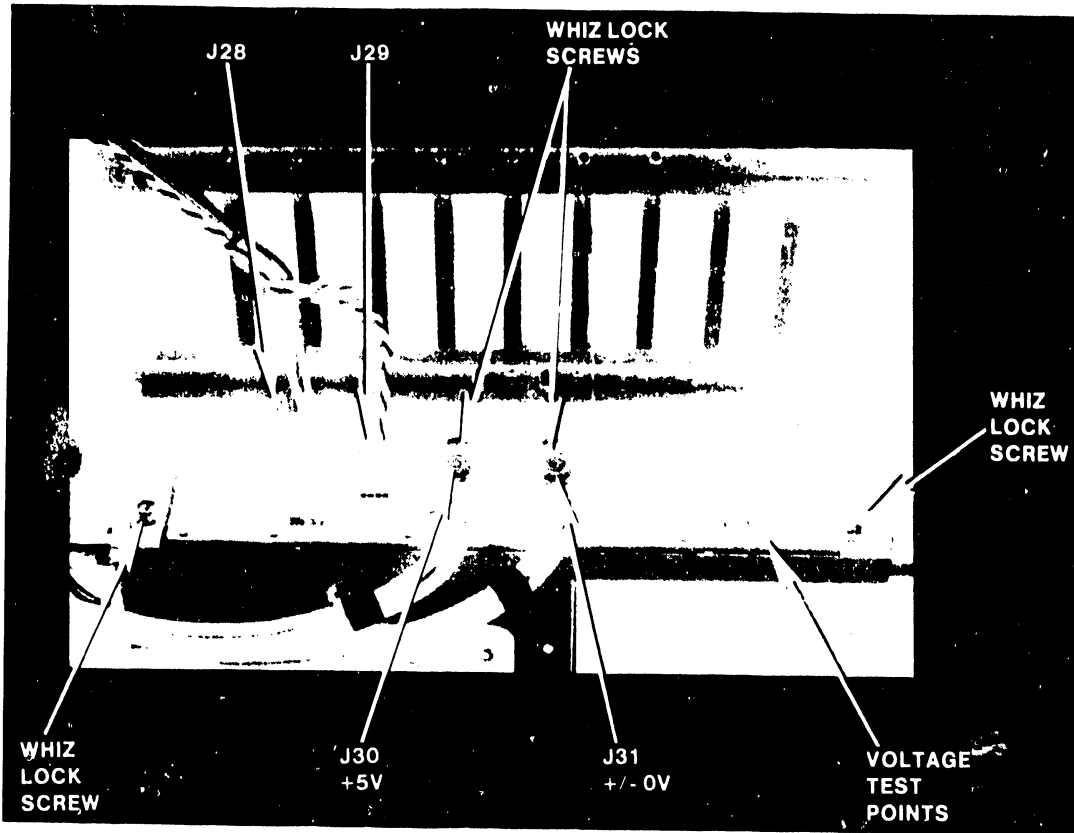

Figure 4-9. Motherboard Power Connectors
- h. The following voltages must be checked on the VS-25/45 at the motherboard test points (figures 4-9 and 4-10). (Adjustments to the switching power supply should not be performed in the field.)